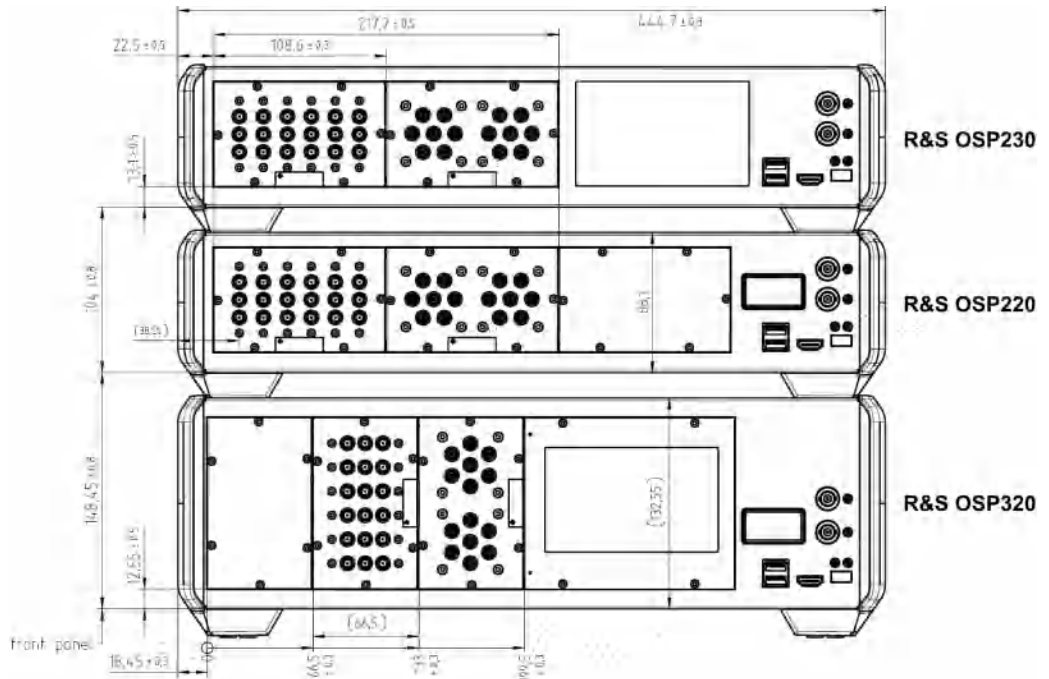
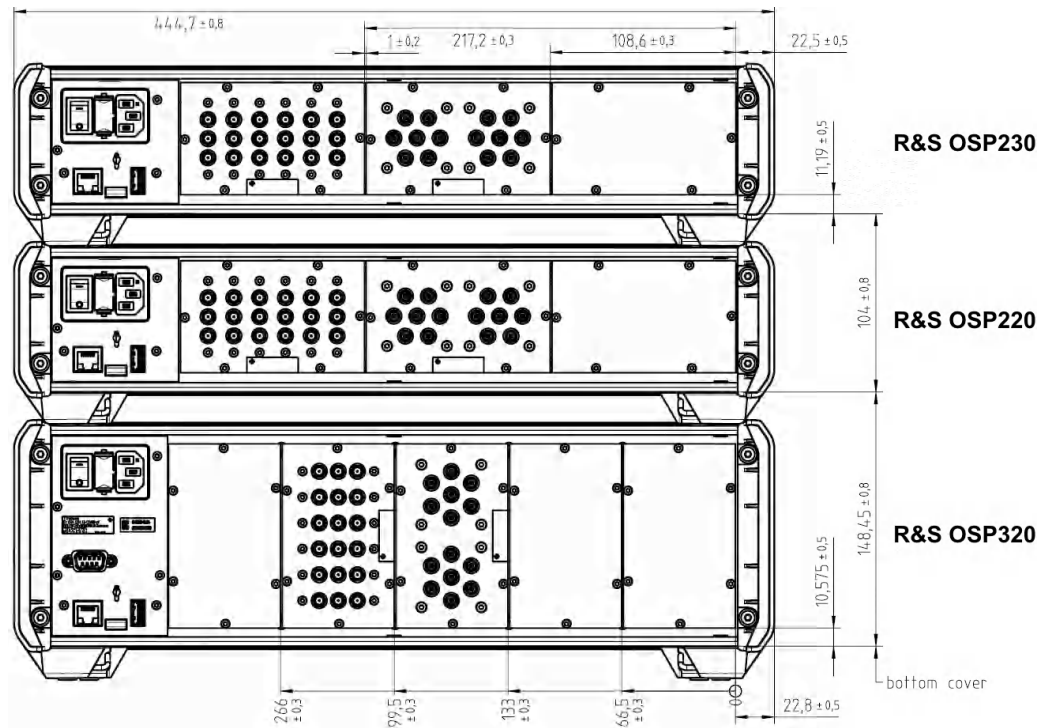

Figure A-3: Front panels of the stacked stand-alone units
Figure A-4: Rear panels of the stacked stand-alone units
- Figure A-3 and Figure A-4 show the geometry in a stack of stand-alone units